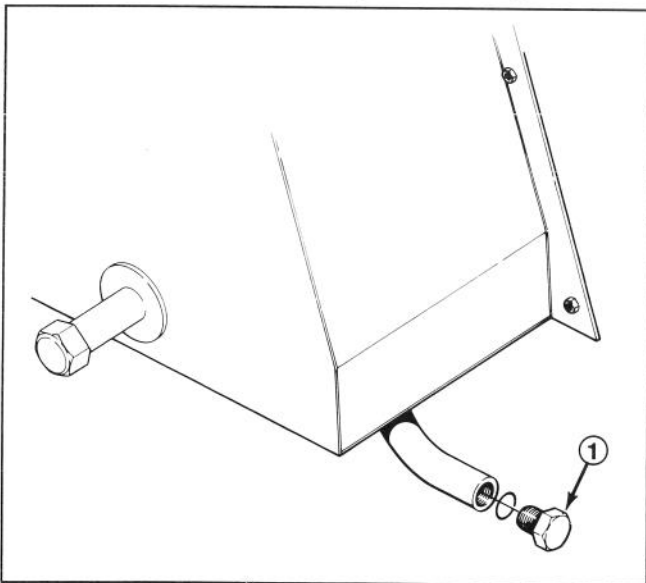

Figure 45
1. Open drain plug (Fig. 45) one-half turn and allow fluid to flow into drain pan until water is not noticed in the hydraulic oil.
1. Remove drain plug (Fig. 45) from reservoir and let hydraulic oil flow into drain pan. Tighten plug when hydraulic oil stops draining.